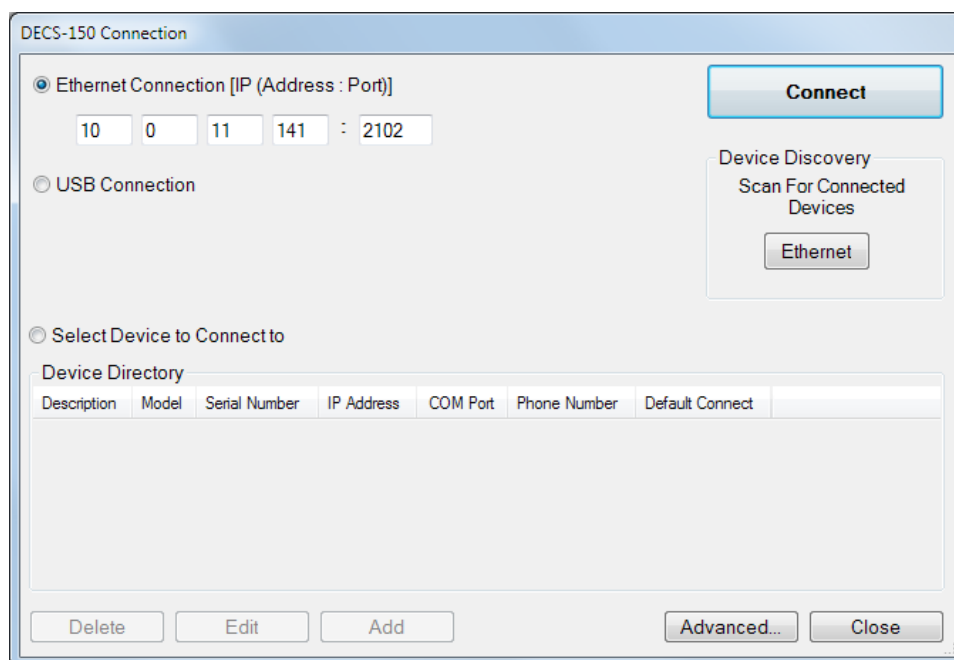

Figure 110. DECS-150 Connection Window
3. In BESTCOMSP^{Plus}®, click Communication, New Connection, DECS-150, or click the Connection button on the lower menu bar. The DECS-150 Connection window appears as shown in Figure 110.